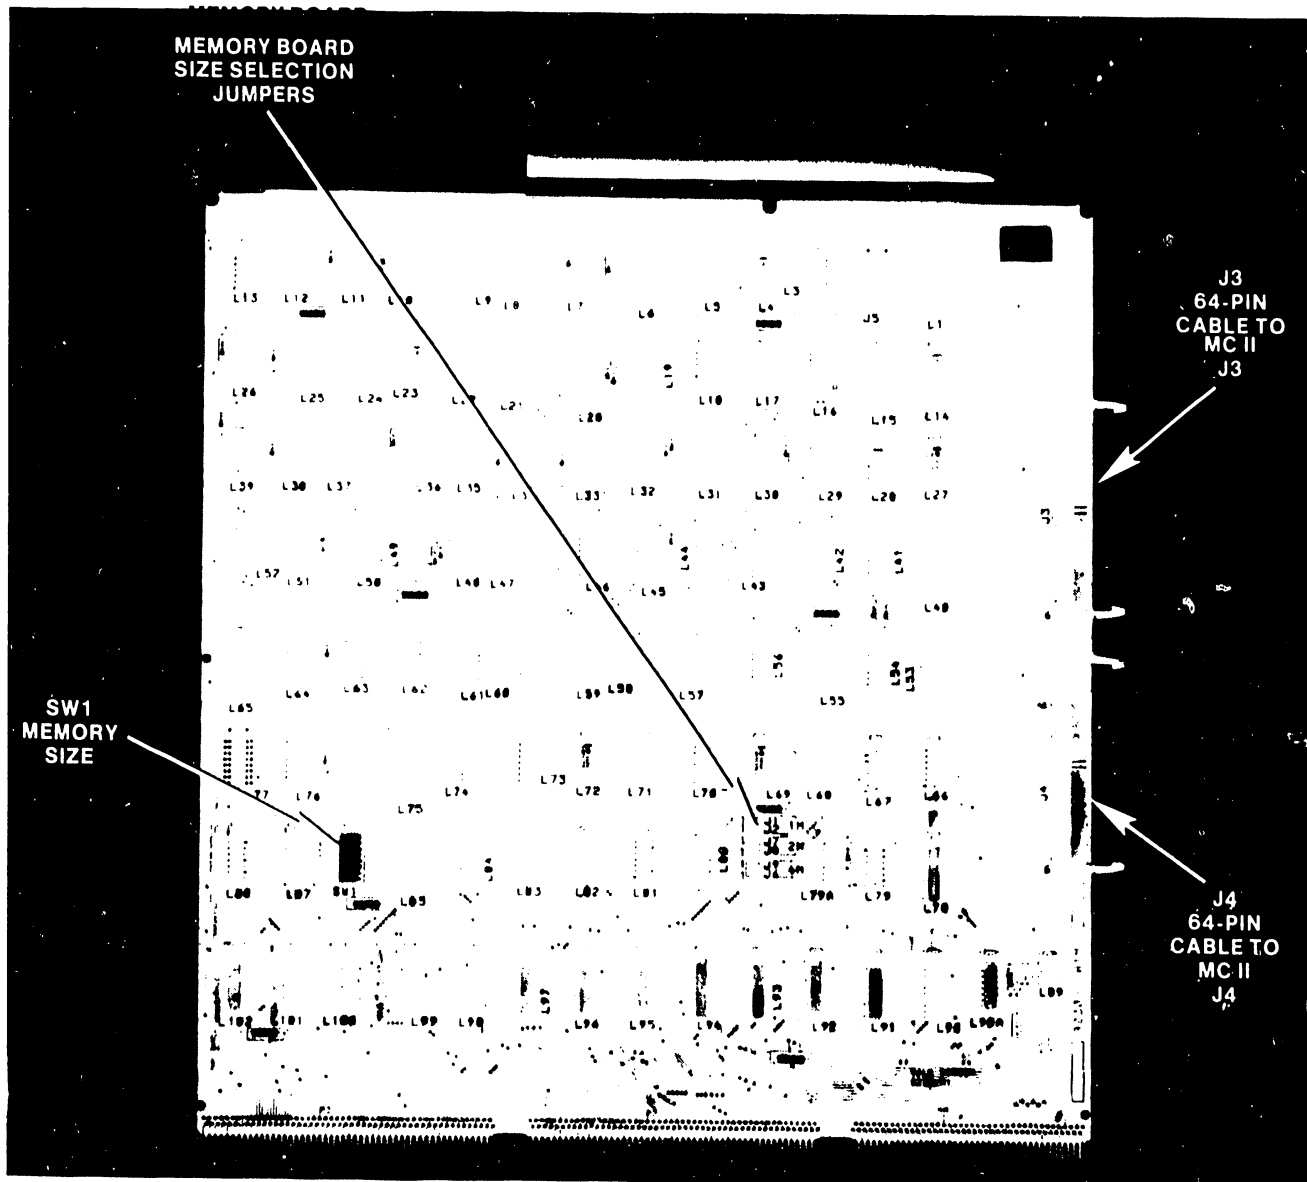

Figure 5-8. 210-8230 Memory Controller I Board
1. If the system has a Memory Controller I board (figure 5-8) in Mother-board slot #4, disconnect the 64-pin connectors from J3 and J4 on the front of the board.
2. Refer to table 5-1 and install the new Main Memory board(s). If installing a new board means the main memory capacity will change, see figures 5-8, 5-9, and 5-10, or 5-11A & B, 5-12A & B, and 5-13A & B.